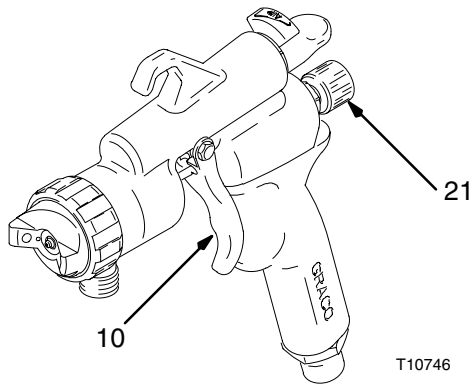

Fig. 2
1. To obtain maximum fluid flow, turn fluid adjustment knob (21) counterclockwise until the trigger (10) moves freely. See Fig. 2.